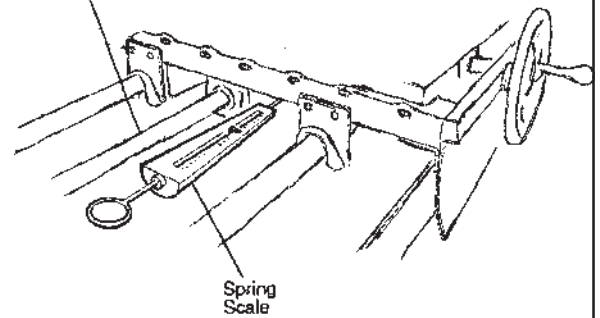

FIG. 19
- Connect a spring scale so it pulls on the carriage parallel to the drive shaft. Hold the drive shaft from rotating while you pull on the carriage. See FIG. 19.
12. Recheck the bearing tension. The tension is correct when you try to lift the carriage and can feel no free carriage movement up or down. Check for excessive carriage-traverse load by using a spring scale to pull on the carriage parallel to the drive shaft (as in FIG. 19). There should be only about a 3 lb. pulling force.